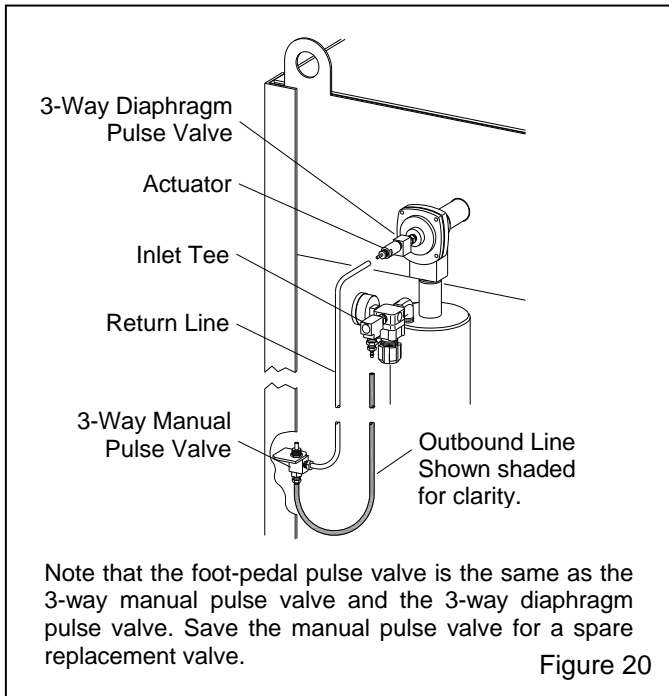

Figure 20
**4.3.7** Refer to Figure 20 and pull or pry the manual pulse-valve tubing from the barb fittings on the pulse-valve actuator and inlet tee.